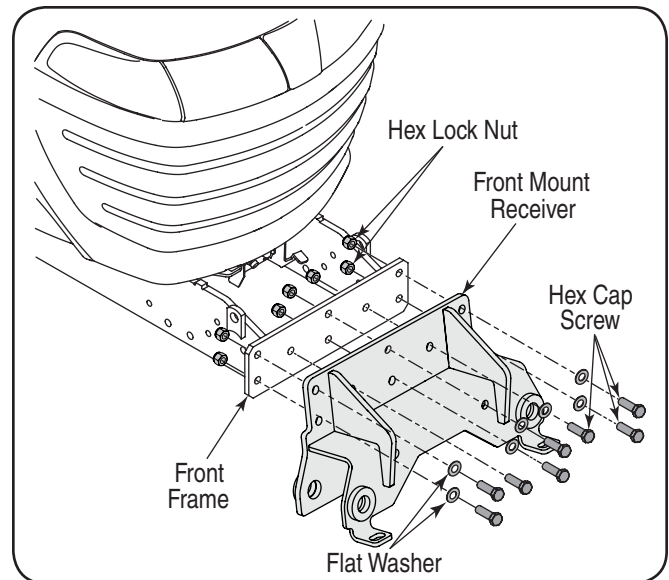

Figure 4
- Slide a flat washer (8) onto each of the eight hex cap screws (7). Refer to Figure 4.
- Position the front mount receiver (3) so that its open channel is facing downward. Then place the front mount receiver against the front of the tractor frame (where the front weight bracket was previously removed).
- Align the eight holes in the front mount receiver with the corresponding holes in the front frame. While holding the front mount receiver in position, insert eight hex cap screws w/ washers through the front mount receiver and tractor frame. See Figure 4.
- Thread a hex lock nut (9) onto each hex cap screw. In a staggered pattern, evenly tighten all hex cap screws and lock nuts. Torque the fasteners to 60-70 ft. lbs. (81-94 N•M).